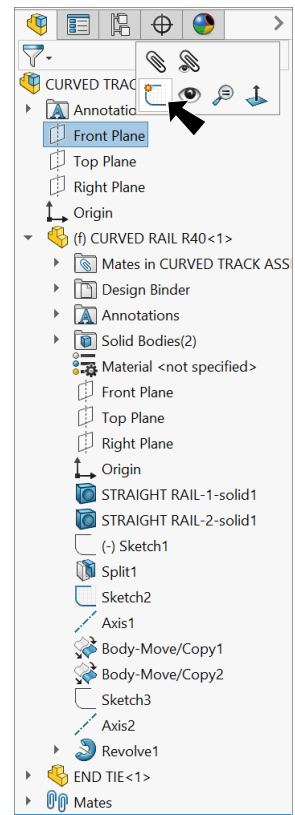

Fig. 12
Step 2. Click **Front Plane**  in the Feature Manager and click **Sketch**  on the context toolbar, **Fig. 12**.
Step 3. Click **Line**  (L) on the Sketch toolbar.